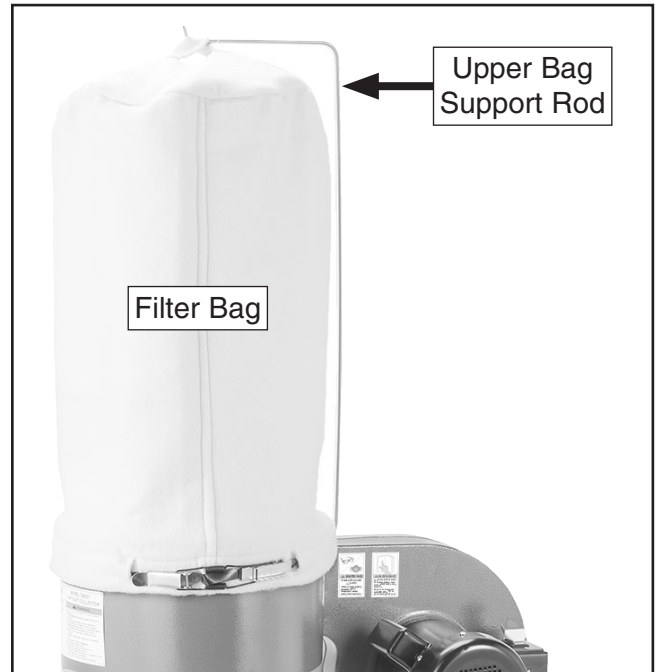

Figure 16. Filter bag installed.
13. Hook top of filter bag to upper bag support rod, then use bag clamp to secure filter bag to upper edge of collector (see **Figure 16**).